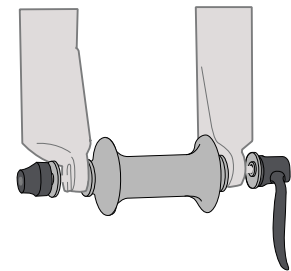

Figure 7. Place hub in dropouts
3. Guide the hub into the dropouts of the fork and carefully guide the disc rotor between the disc brake pads. Set the wheel so it fully touches the inner surfaces of the fork ends (Figure 7).